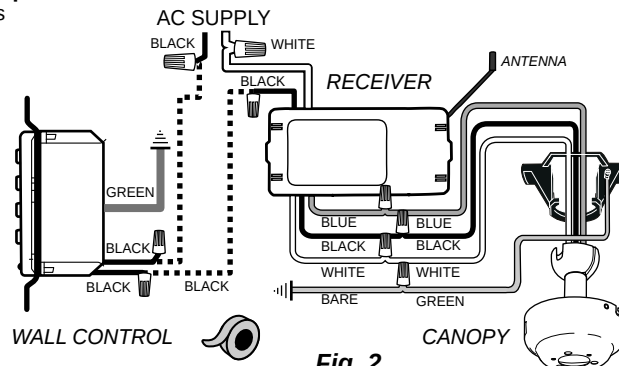

Fig. 2
- F.** Using the wire connectors supplied, make wiring connections as follows: (Figure 2)
Remove wall plate, disconnect and remove the toggle switch from wall outlet box. Using the wire connectors provided, make the electrical connections to the wall control as shown in Figure 2. Wrap each wire connector separately with electrical tape as an extra safety measure. Carefully push all connected wires back inside wall outlet box. Secure wall control with 2 screws provided. Attach wall plate cover with the 2 original screws.